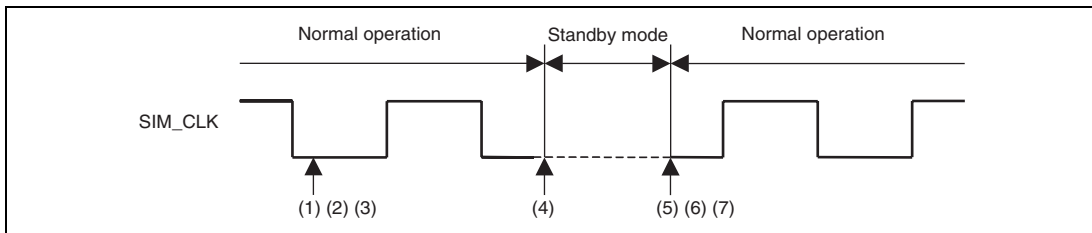

Figure 30.10 Procedure for Stopping Clock and Restarting
(3) Standby Mode Switching
When switching between smart card interface mode and standby mode, in order to retain the clock duty, the following switching procedure should be used. Step (1) to step (7) of figure 30.10 correspond to the following operation.